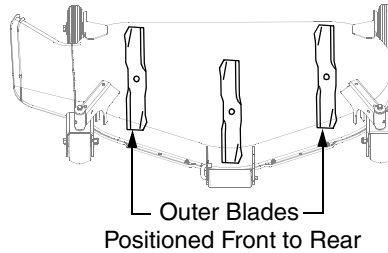

Figure 30
2. Position the mower blades so the ends of each blade point to the front and the rear of the tractor (See Figure 30).